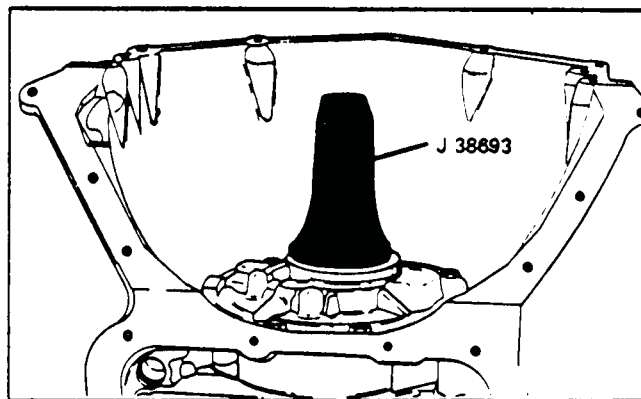

Figure 107
12. Install front pump seal using a seal driver as shown in Figure 107.